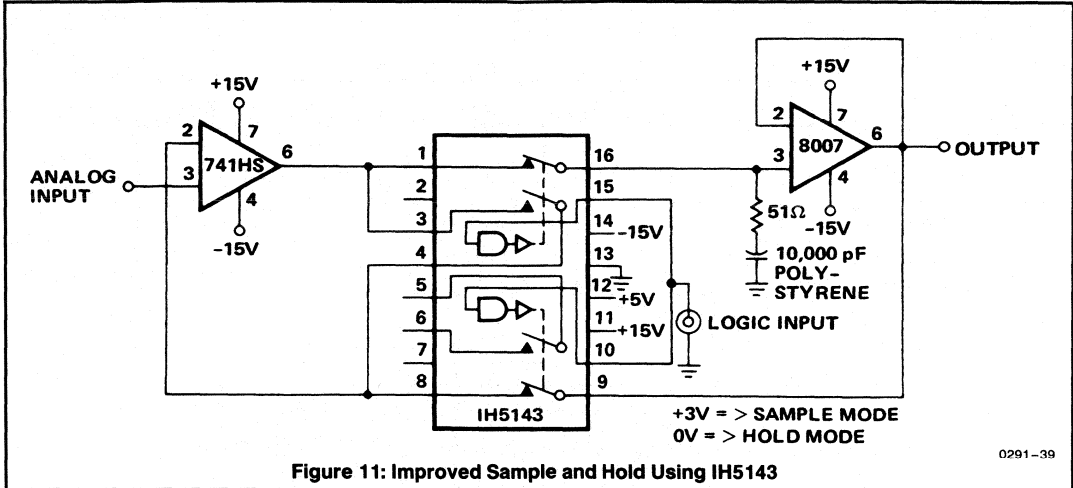

Figure 11: Improved Sample and Hold Using IH5143
**TTL OPEN COLLECTOR LOGIC DRIVE (Corresponds to Figure 11)**